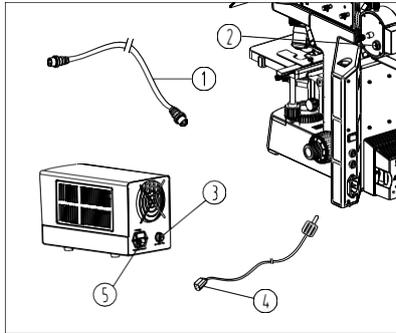

Fig. 12
- (1) Make sure the main switch of microscope and mercury lamp power supply are at “O” (OFF) position.
- (2) Connect one end of the plug ① to the socket ②, and insert it to the bottom, then lock the screw. (See Fig. 12)
- (3) Use same way to connect other end of the plug ① to connector ③ of power supply.
- (4) Connect one side of the plug ④ to socket ⑤ on mercury lamp power supply and other side to power supply socket.